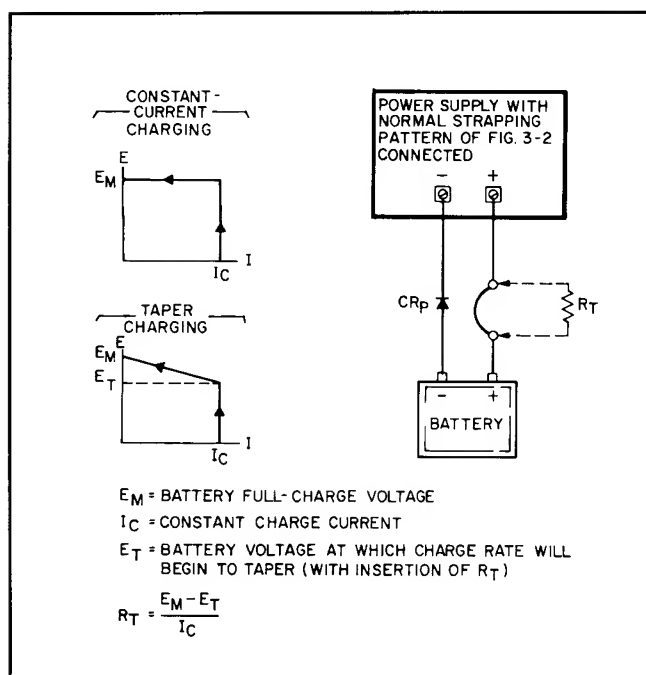

Figure 3-14. Battery Charging
*Any time these supplies are used to charge a battery, be sure to install a protective diode CRP in series with the battery as shown in Figure 3-14 to prevent the battery from discharging into the supply if the supply is turned off. Extensive damage to the supply could result if this diode were omitted.*
b. Connect a short circuit across the output terminals and rotate the VOLTAGE control fully clockwise (CW).
e. Adjust the VOLTAGE control for an output voltage 0.7 volts greater than the desired full charge voltage. (The added 0.7 volts compensates for the drop across  $CR_p$ .) The supply may then be connected to the battery terminals, positive to positive and negative to negative as shown in Figure 3-14 (omit  $R_T$ ).
**3-82 Taper Charge.** When charging lead-acid cells, many manufacturers recommend that the charging current be reduced as the charge nears completion. This can be accomplished by inserting a small resistance ( $R_T$ ) in series with one of the load leads from the supply to the battery. (See Figure 3-14.) This resistor alters the normally rectangular charging plot in such a manner as to provide a taper charge for the last portion of the charge. The proper value for this resistor is the difference between the full charge voltage and the voltage at which the tapering is to start, divided by the initial charging current. Set the initial charging rate and full charge voltage as instructed in paragraph 3-81.